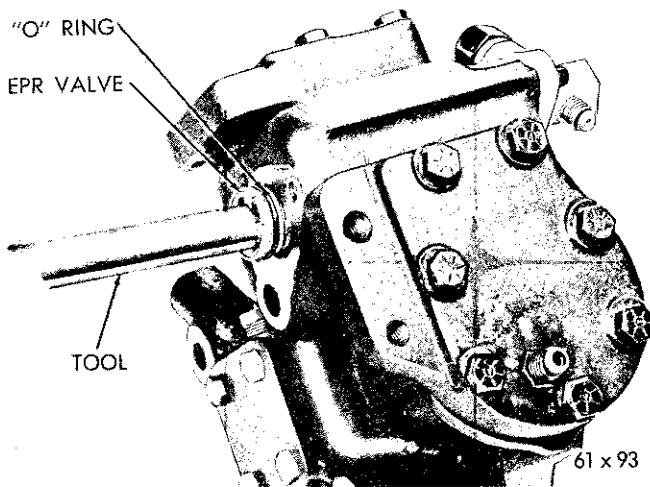

Fig. 7—Removing or Installing EPR Valve
(1) Remove the EPR Valve suction line fitting bolts, the fitting which also contains the compressor suction screen, spring and the gasket.
(2) Remove the EPR Valve and "O" ring from the compressor using Tool C-3822, by rotating the valve slightly, as shown in Figure 7.